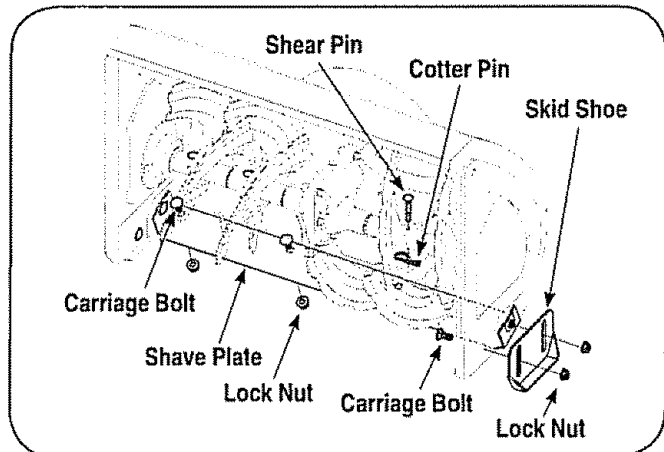

Figure 7
1. To replace, remove two carriage bolts and nuts securing each skid shoe to the auger housing. See Fig 7.
3. To remove shave plate: Remove both skid shoes and hardware including carriage bolts and nuts which attach shave plate to the snow thrower housing. For location of shave plate, see Figure 7.
The augers are secured to the spiral shaft with four shear pins and cotter pins. If you hit a foreign object or ice jam, the snow thrower is designed so that the pins may shear. Refer to Figure 7.